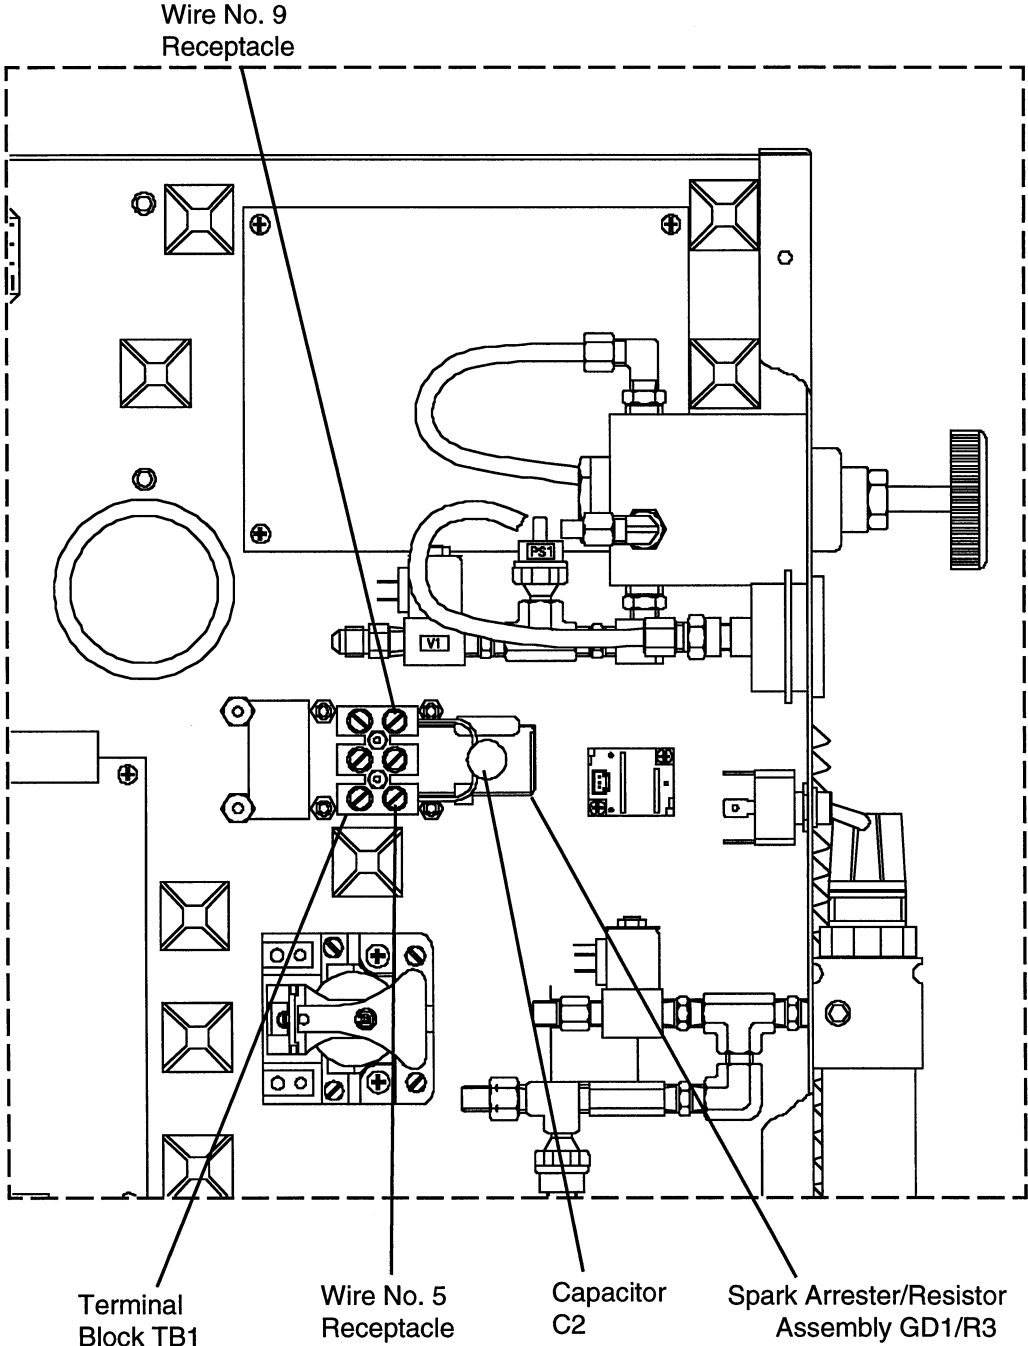

Figure 1 Spark Arrester/Resistor and Capacitor Removal
Install new capacitor by referring to Fig. 1 and 2, and proceeding as follows:
1. Turn off power to the power supply. Set circuit breaker on power supply to OFF (O) and set the line disconnect switch to OFF. Lock-out and tag-out switch.
3. Locate terminal block TB1 for wires number 5 (white) and 9 (black) (fig. 1).